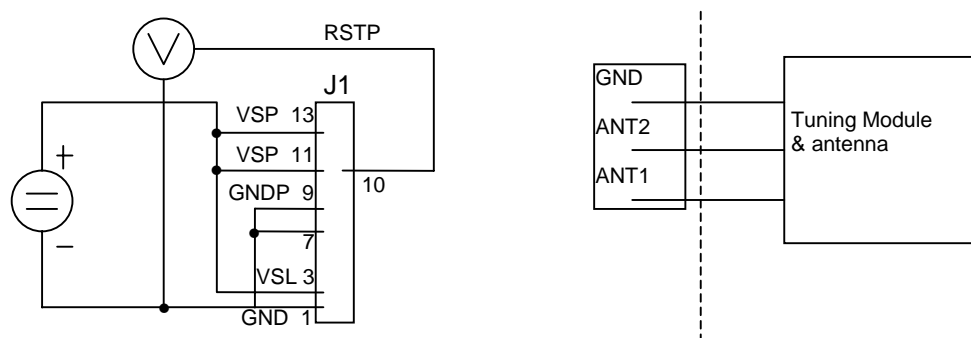

Figure 12: Noise Testing Configuration
The test pin RSTP at connector J1 pin 10 carries an analog output voltage indicating the receive signal strength. This voltage should be measured in combination with the antenna RI-ANT-G02. The necessary set-up for this test is shown in Figure 12. This configuration operates the RA-RFM from a battery and has no interface line connected.
Try the configuration shown in Figure 12. If this configuration shows bad noise conditions (RSTP voltage more than approximately 1.0 VDC) then the problem is radiated noise.
1. When the configuration of Figure 12 shows good noise conditions (RSTP voltage less than 1.0 VDC) then the problem is conducted noise.